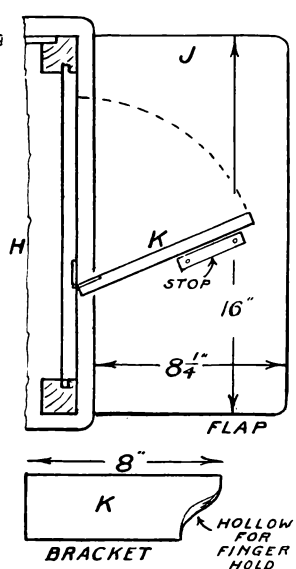

FIG. 5. DETAILS OF FLAP.
length they may equal the full width of top (H) or may be reduced to 16 ins. as indicated (Fig. 5). Hinge with stout back-flaps, bedded in. Brackets (K) may be about 8 ins. by $2\frac{3}{4}$ ins., hinged to table end with a $2\frac{1}{2}$ in. butt. Provide a stop for each bracket.
Framework.—The method of construction with 2 in. square framing is clearly shown in Fig. 2. The two end frames may be made as in either Figs. 3 or 4. In Fig. 3 there are two uprights joined with top and bottom rails half-lapped and screwed together. In Fig. 4 the uprights are simply joined with a top rail, and are long enough to be sunk about 1 ft. in the ground. When the end frames are made and are in place, the construction is carried forward by fixing two rafters across the top. They should be lapped about $\frac{1}{4}$ in. over the end frames, as shown in Fig. 5, and nailed. The framework is strengthened by fitting a centre upright under the back rafter, and nailing a fascia board from 4 ins. to 6 ins. deep across the front top edge of the framework.